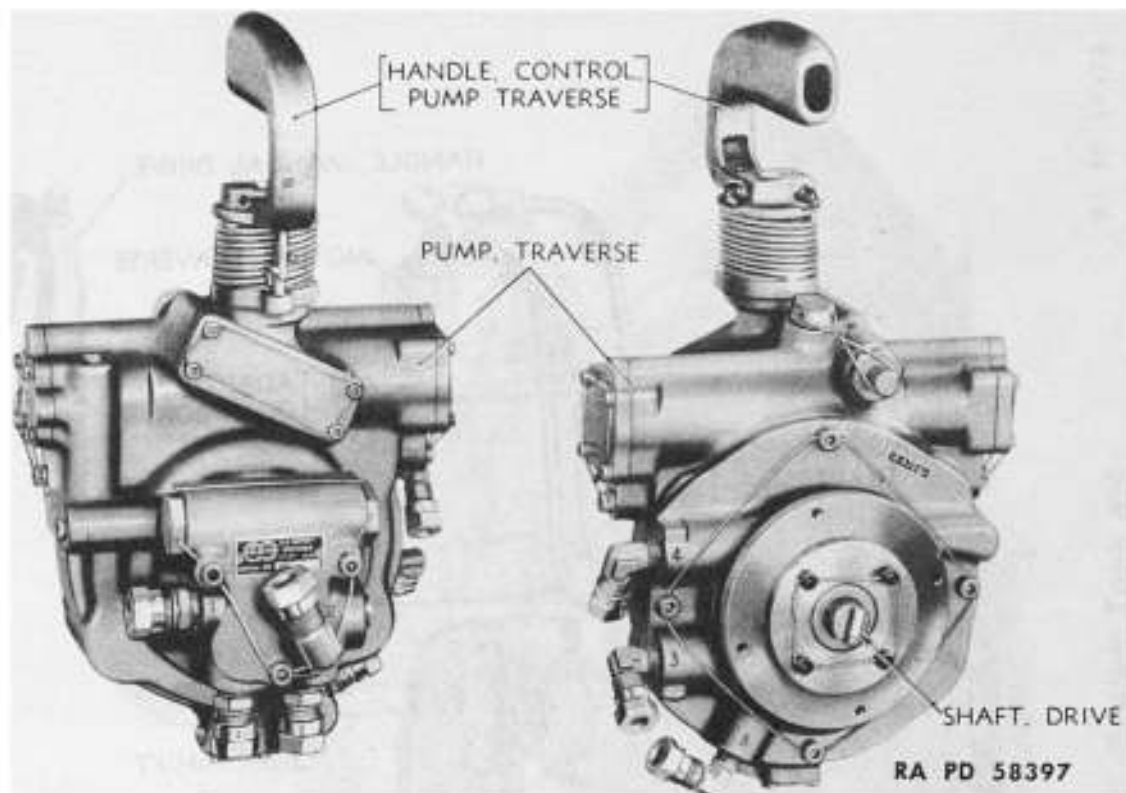

Figure 3 – Front and Rear View of Variable Displacement Traverse Pump
a. **Variable Displacement Traverse Pump** (fig. 3). An Oilgear type TH-411, D-47581 two-way variable displacement pump, directly connected to a vertical electric motor, supplies controlled fluid power for the turret traverse mechanism. A spring centered control handle—mounted integral with pump on the eccentric control shaft—regulates the speed and direction of turret rotation.